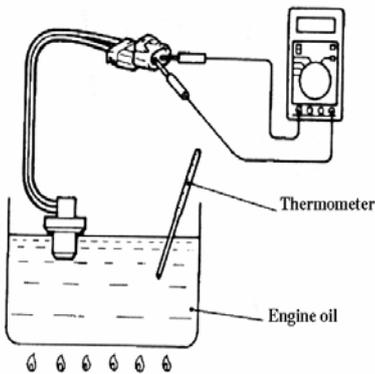

Fig 18-24
1. Dip the metal part of the Refrigerant temperature switch into engine oil and warm up the oil (Fig. 18-24).